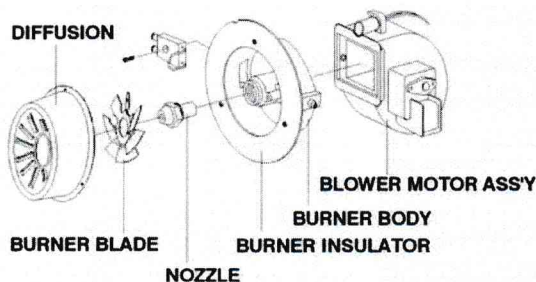

Figure 8. Nozzle Maintenance
- To clean dirt from nozzle, blow compressed air through nozzle front. It may be necessary to soak nozzle in clean 1-K kerosene to help loosen any particles (Figure 8).